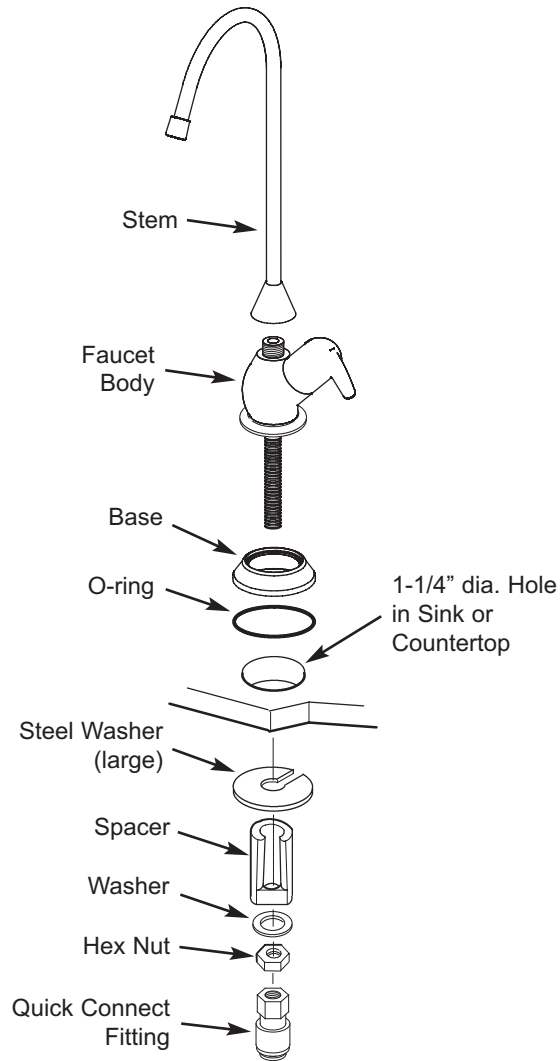

FIG. 4
1. Locate and organize your filtered water faucet install parts. Refer to Fig. 4.